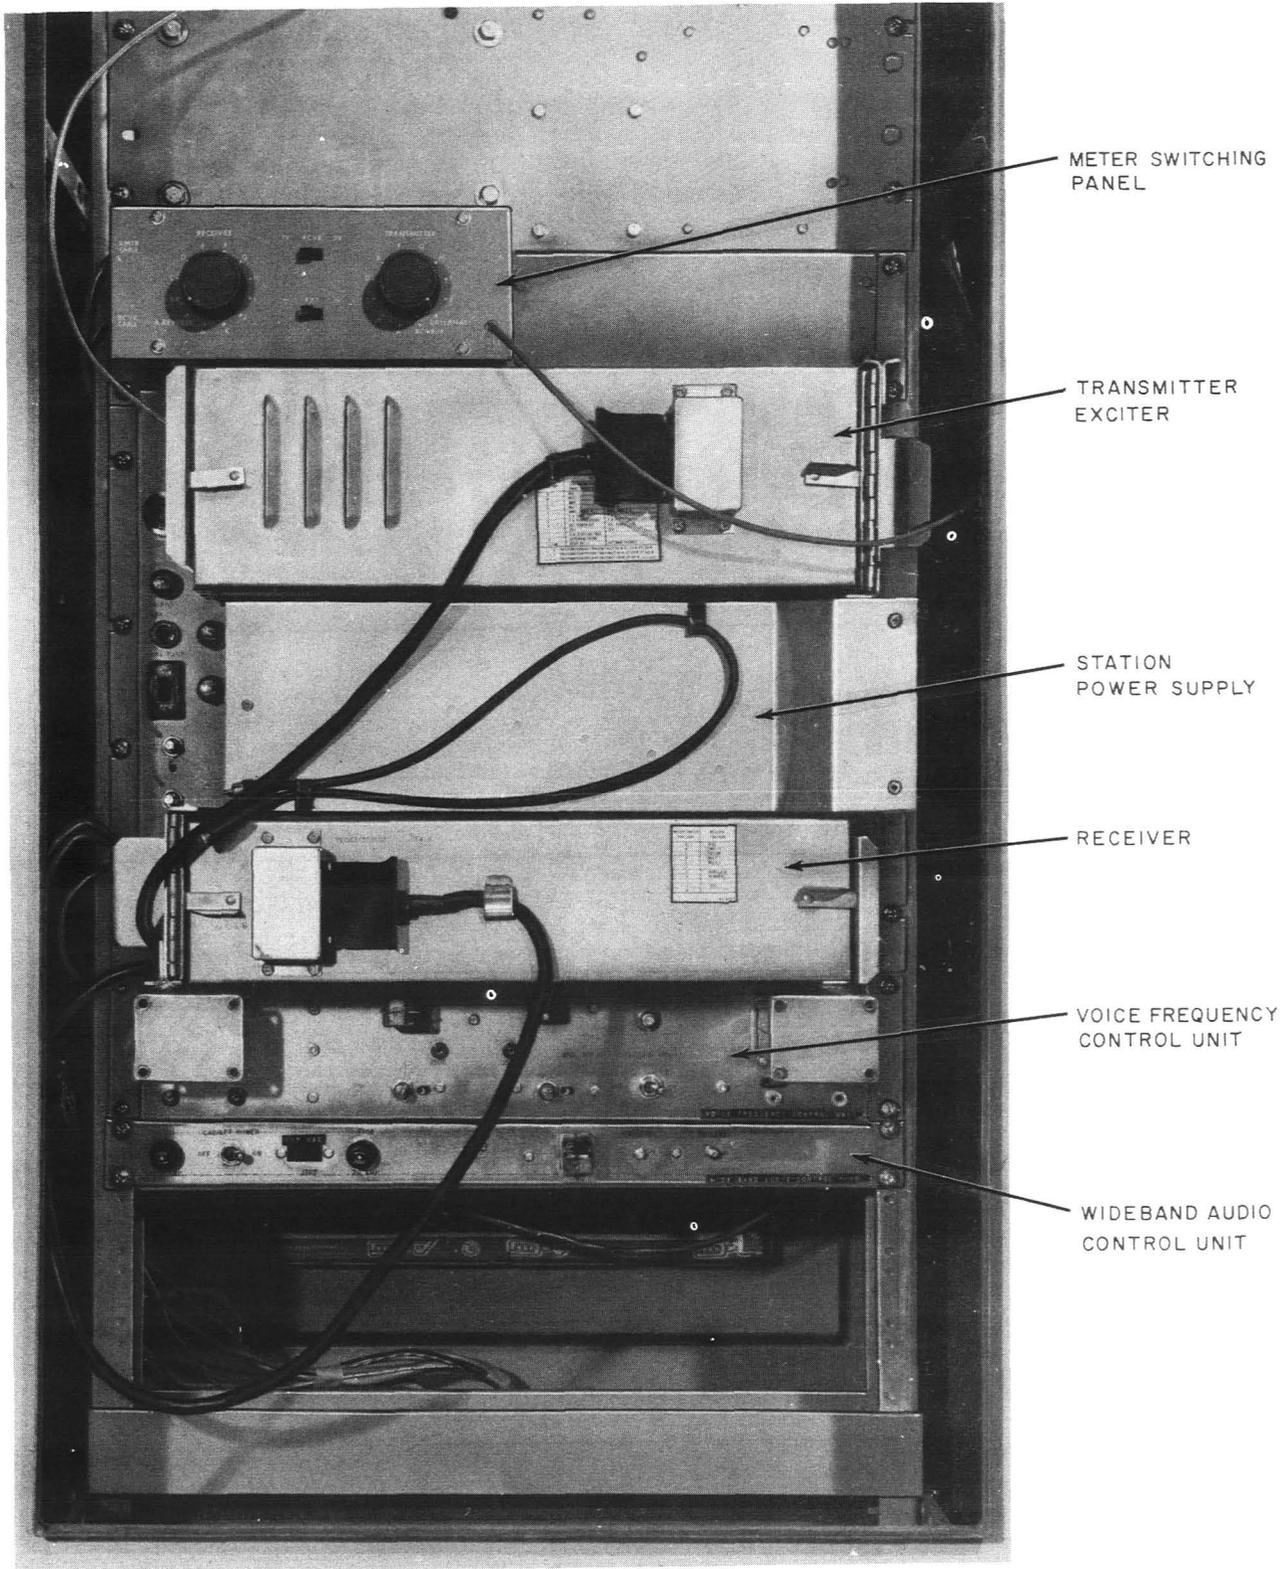

Fig. 2—Station Cabinet—Front View—Lower Half
3.57 The transmitter-exciter and receiver are mounted on the front side of the station power supply panel (Fig. 2). A fan is mounted on the front panel to cool the transmitter-exciter and the 13.4-volt regulator transistor.